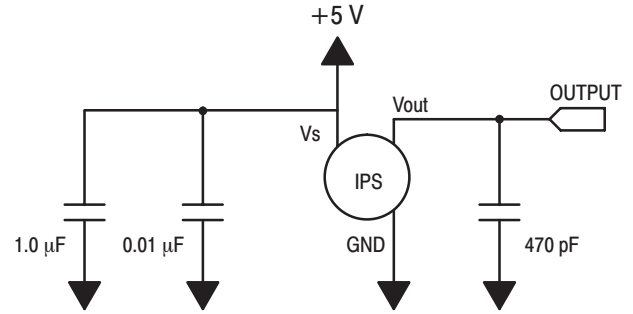
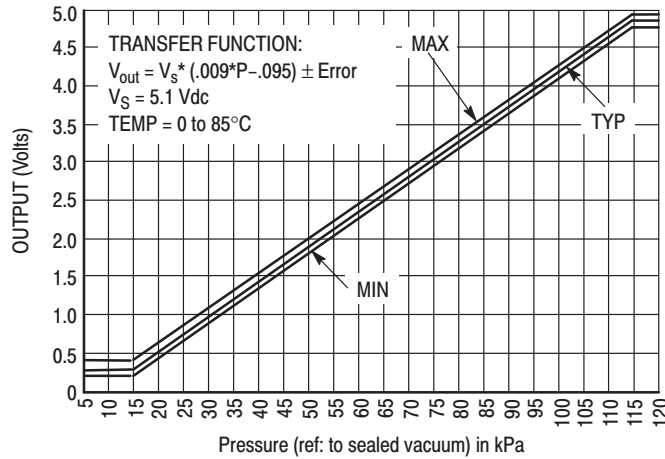

Figure 3. Recommended power supply decoupling and output filtering.
Figure 4. Output versus Absolute Pressure
**OPERATING CHARACTERISTICS** (VS = 5.1 Vdc, TA = 25°C unless otherwise noted, P1 > P2. Decoupling circuit shown in Figure 3 required to meet Electrical Specifications.)
Figure 3 shows the recommended decoupling circuit for interfacing the output of the integrated sensor to the A/D input of a microprocessor or microcontroller. Proper decoupling of the power supply is recommended.
Figure 4 shows the sensor output signal relative to pressure input. Typical minimum and maximum output curves are shown for operation over a temperature range of 0 to 85°C using the decoupling circuit shown in Figure 3. The output will saturate outside of the specified pressure range.